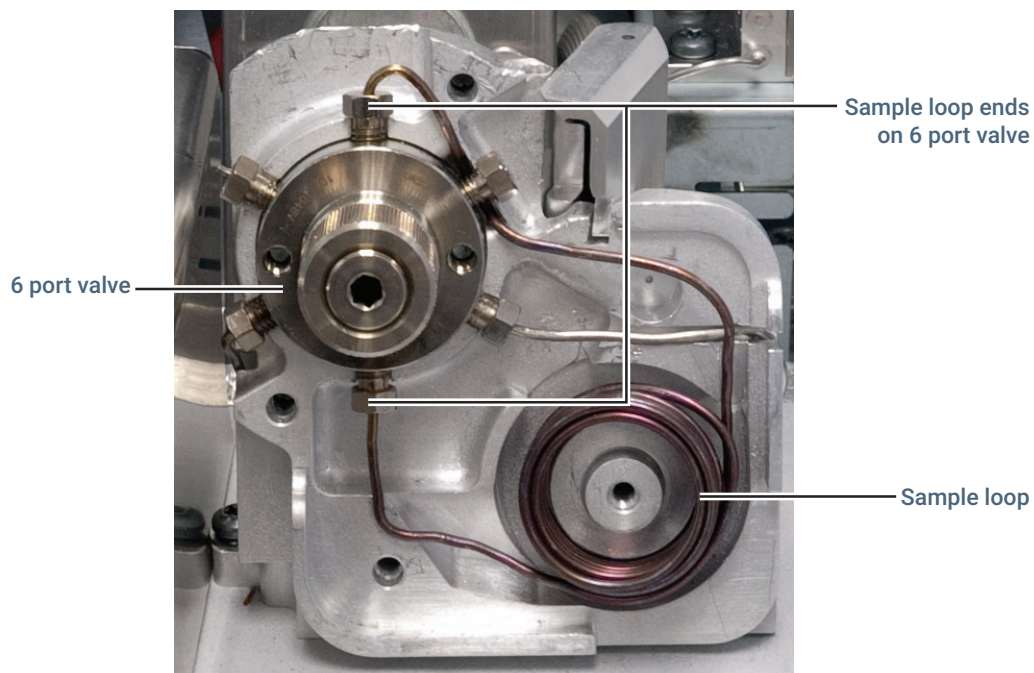

Figure 19. Disconnect the sample loop from the 6 port valve
- 7 Using a 1/4-inch wrench, disconnect the two sample loop ends from the 6 port valve (**Figure 19**).
- 9 Remove the sample loop (**Figure 19**). Pull the loosened sample probe fitting out just enough to slide the sample loop tubing underneath it.